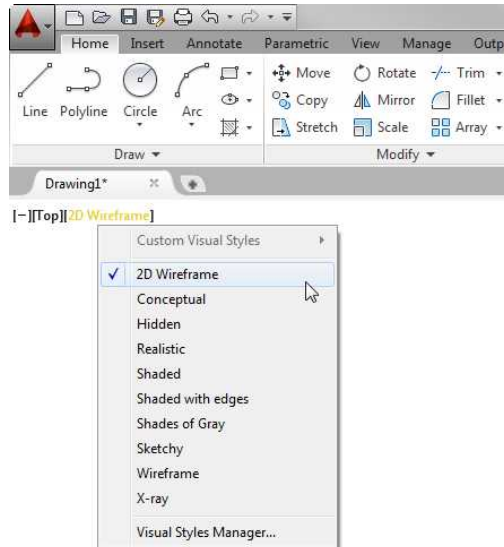

FIGURE 1.6: Selecting the 2D Wireframe visual style by using in-canvas Viewport controls
3. From the in-canvas Viewport controls, click the Visual Style control to display a list of visual styles. Select the 2D Wireframe option from the list, as shown in Figure 1.6.